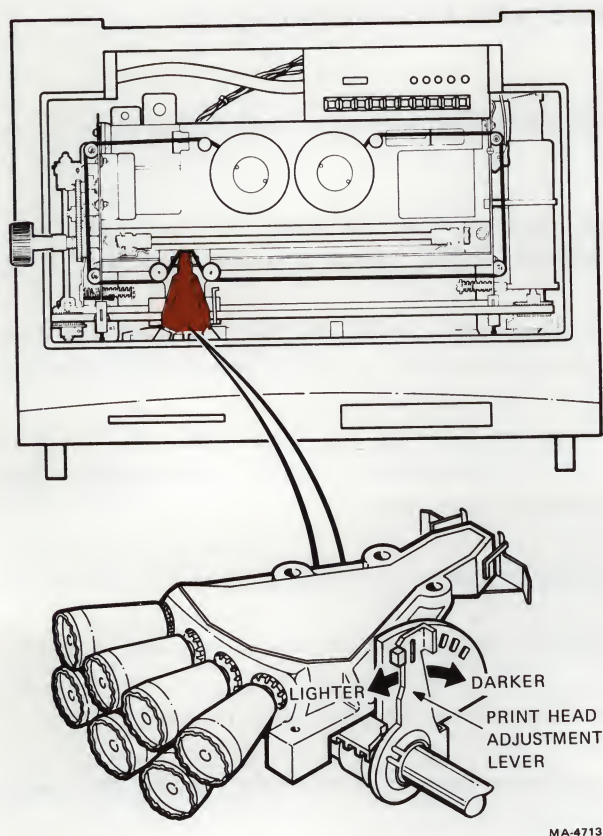

Figure 1-13 Ribbon Installation
3. Move printhead adjustment lever to the last notch toward the operator (Figure 1-13).
5. Install new ribbon as shown in Figure 1-13.